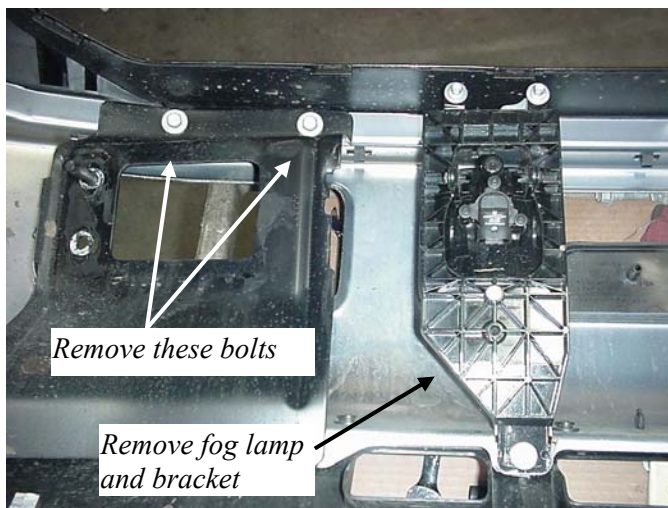

Figure 12 LH bumper bracket bolts
12. Remove the upper bolts from the left and right bumper brackets. **Figure 12.**